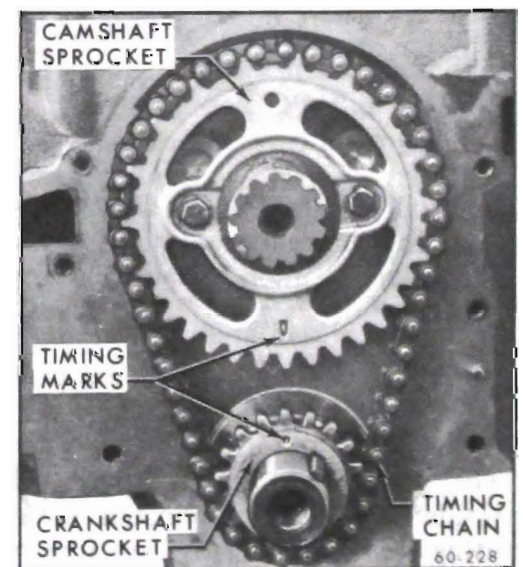

Figure 60-245 Installation of Timing Chain and Sprocket (455 cu.in.)
Temporarily install crankshaft pulley bolt and washer in end of crankshaft. Turn crankshaft so sprockets are positioned as shown in Figure 60-245. Remove crankshaft pulley bolt and washer using a sharp blow on the wrench handle, so that the bolt can be started out without changing position of sprockets.
2. Turn camshaft so with sprocket temporarily installed, timing mark is straight down. See Figure 60-245. Remove sprocket.
3. Assemble timing chain on sprockets and slide the sprocket and chain assembly on the shafts with the timing marks in their closest together position and in line with the sprocket hubs. See Figure 60-245.